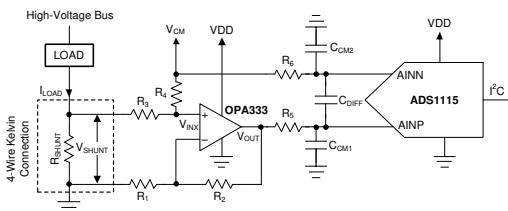

Figure 9-6. Low-Side Current Shunt Monitoring
Shunt-based, current-measurement solutions are widely used to monitor load currents. Low-side, current-shunt measurements are independent of the bus voltage because the shunt common-mode voltage is near ground. **Figure 9-6** shows an example circuit for a bidirectional, low-side, current-shunt measurement system. The load current is determined by measuring the voltage across the shunt resistor that is amplified and level-shifted by a low-drift operational amplifier, **OPA333**. The OPA333 output voltage is digitized with **ADS1115** and sent to the microcontroller using the I²C interface. This circuit is capable of measuring bidirectional currents flowing through the shunt resistor with great accuracy and precision.
- To level-shift the ground-referenced signal to allow bidirectional current measurements while running off a unipolar supply. The voltage across the shunt resistor, V_{SHUNT}, is level-shifted by a common-mode voltage, V_{CM}, as shown in **Figure 9-6**. The level-shifted voltage, V_{INX}, at the noninverting input, is given by Equation 5.
A shunt resistor (R_{SHUNT}) is an accurate resistance inserted in series with the load as shown in Figure 9-6. If the absolute voltage drop across the shunt, $|V_{SHUNT}|$, is a larger percentage of the bus voltage, the voltage drop can reduce the overall efficiency and system performance. If $|V_{SHUNT}|$ is too low, measuring the small voltage drop requires careful design attention and proper selection of the ADC, operation amplifier, and precision resistors. Make sure that the absolute voltage at the shunt terminals does not result in violation of the input common-mode voltage range requirements of the operational amplifier. The power dissipation on the shunt resistor increases the temperature because of the current flowing through the resistor. To minimize the measurement errors resulting from variation in temperature, select a low-drift shunt resistor. To minimize the measurement gain error, select a shunt resistor with low tolerance value. To remove the errors caused by stray ground resistance, use a four-wire Kelvin-connected shunt resistor, as shown in Figure 9-6.